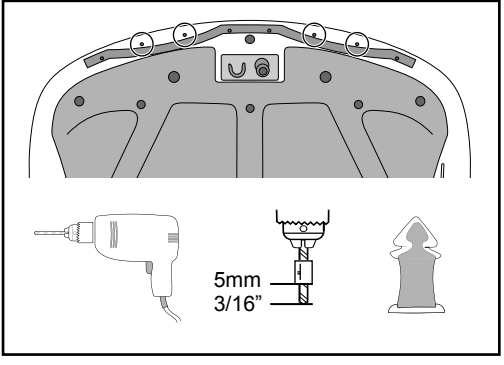

Figure 3
3. Gently move the rubber trim down to expose the plug holes in the hood. Using a 6mm (1/4") drill bit, place a drill stop (or similar method), 5mm (3/16") from the tip and lock into place. Enlarge the plug holes and do not pierce the top skin of the hood. Apply rust inhibitor to the enlarged hole (see Figure 3).